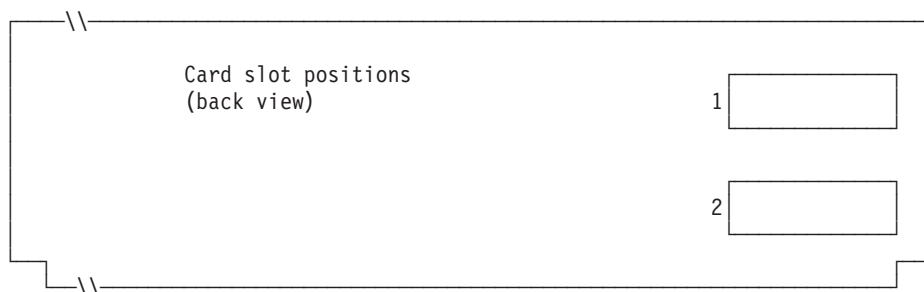

Figure 97. Rear of 4694-0x4/1x4 Point-of-Sale Terminal
4. Mark an X on Figure 97 in each card slot that has a Dual Asynchronous Adapter card installed **for use by terminal applications**. Do not mark an X if the card is to be used by applications other than terminal applications use .